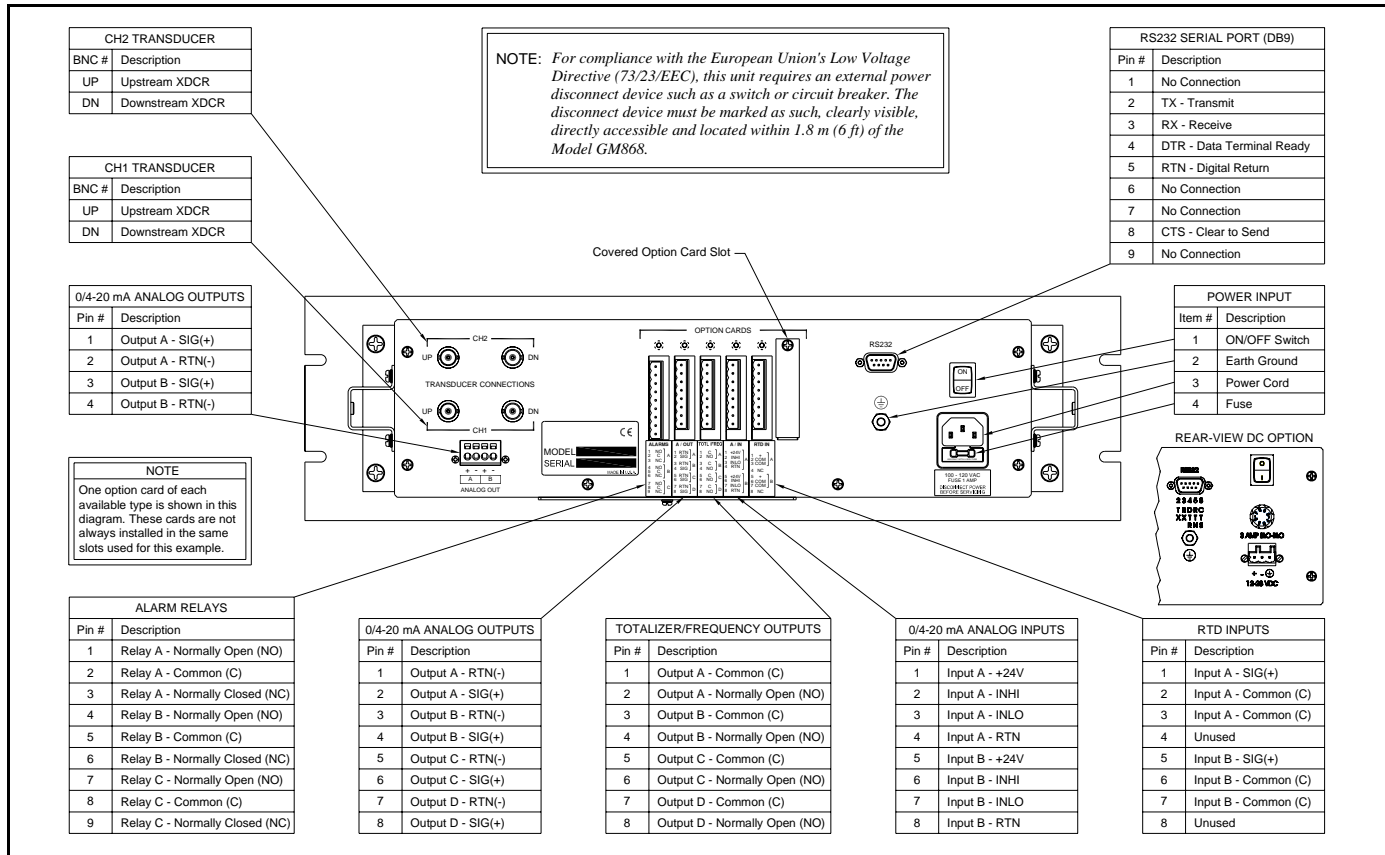

Figure C-2: Model GM868 Rock Mount Enclosure - Wiring Diagram
The rack mount Model GM868 requires exactly the same electrical connections as the standard version. However, the locations and type of connectors used for the various components are different. Refer to Figure C-2 on page C-4 and complete the following steps:
- a. Purchase or prepare a suitable serial cable. This cable should have a standard female DB9 connector, wired as shown in Figure C-2 on page C-4, for connection to the rear panel of the Model GM868. The other end should be as required for the external device.
5. Wire any installed *option cards* using the same procedures described in Chapter 1, *Installation*, of this manual and the pin # assignments shown in Figure C-2 on page C-4.